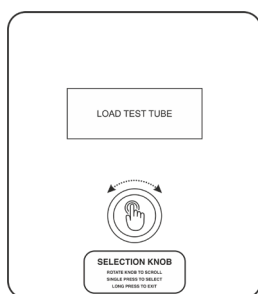

Fig. No. 27.2
- **TUBE CHECK** (Ref. Fig. No. 27.2)